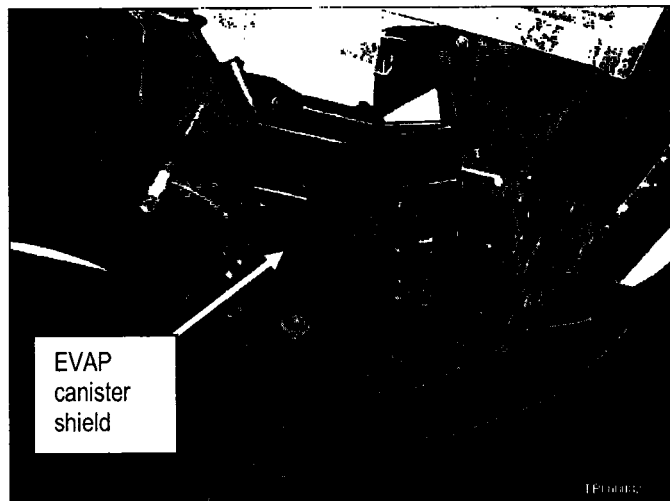

Figure 35
37. Remove three nuts and remove the evaporative canister shield (see Figure 35).